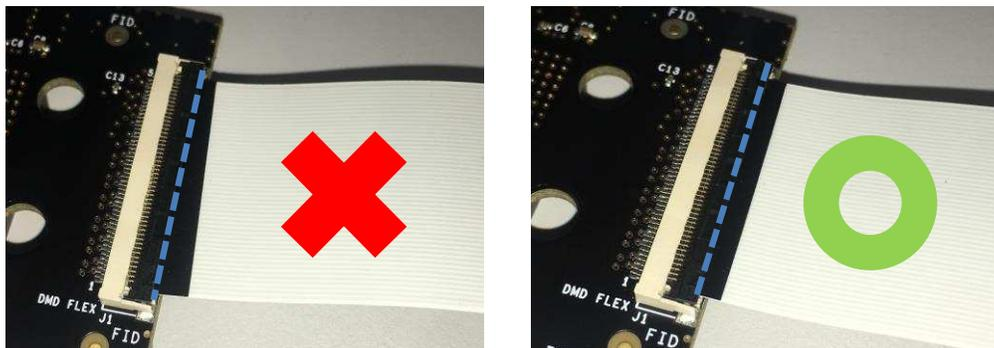

Figure 2-1. DMD Flex Cable Installation Alignment
- Install the DMD Ribbon Cable between the DMD Board and the Formatter Board, ensuring that it is inserted evenly across the entire connector, as shown on the right in Figure 2-1.